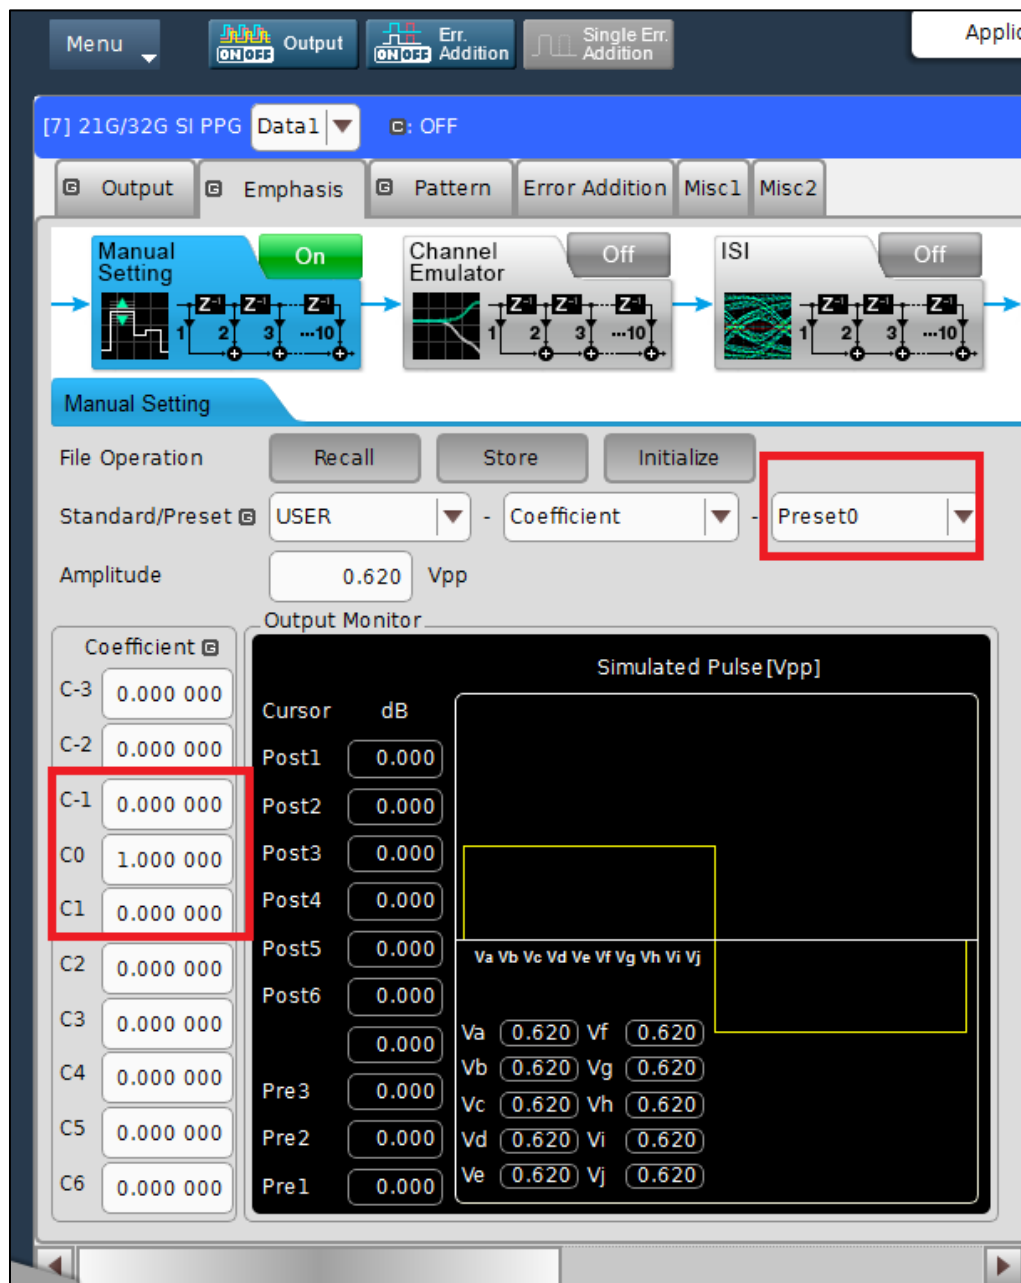

FIGURE 57. 4TAP EMPHASIS CH1 INTERFACE
2. In 4Tap Emphasis Ch1 Menu, create 15 Presets with coefficients which match the Table in the Thunderbolt Interconnect Specification. See Figure 57 below.